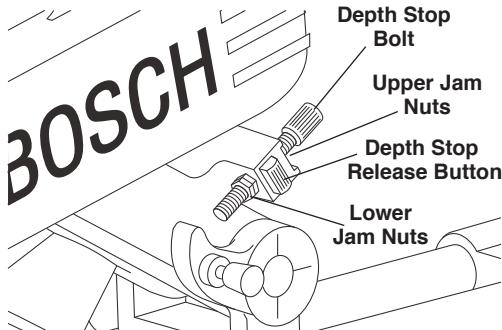

Figure 36. Cutting Grooves
- 1. For major adjustments, press the depth stop release button and slide the depth stop bolt to the desired location (Figure 36).